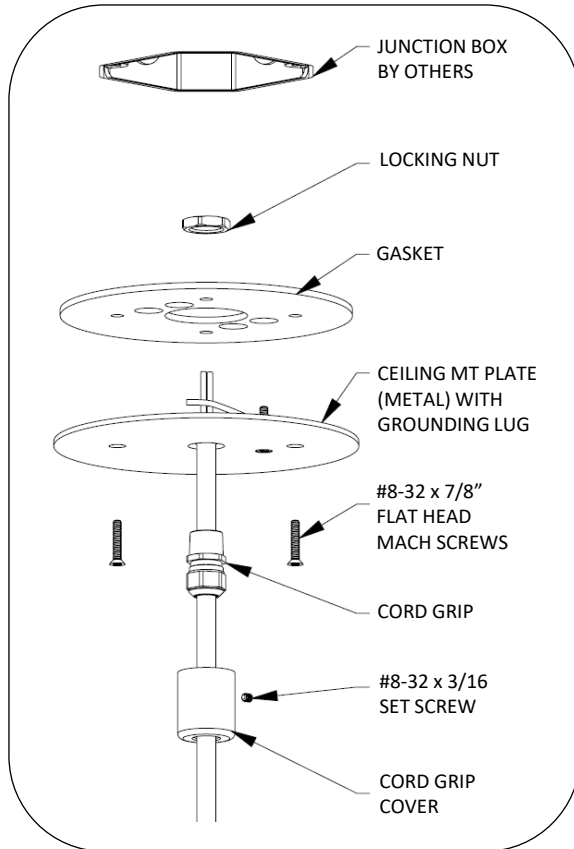
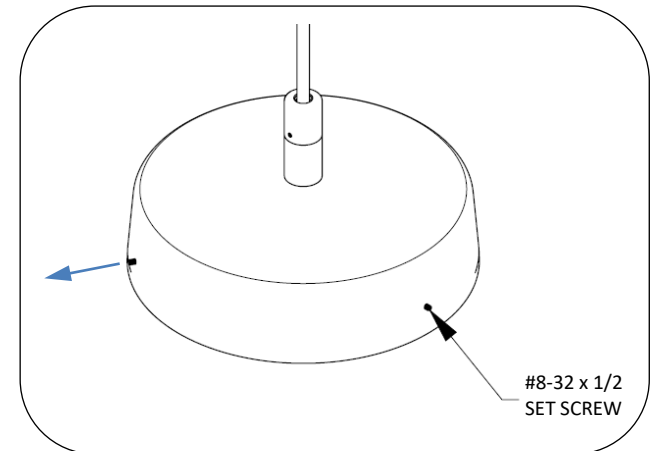

Fig. 1 – secure mt plate and gasket to junction box
Fig. 2 – back out set screws
2. Slide components over cord as shown in Fig. 1. Tighten cord grip in position on the cable, tighten locking nut.
3. Attach cord grip cover using (1) 8-32 x 3/16" set screw.
6. Note: luminaire ships assembled. To reduce weight of fixture during installation, the luminaire cartridge can be temporarily removed. To remove luminaire cartridge, see Fig. 2. Back out three set screws to loosen dome. Disconnect the wiring harness plug. Set cartridge aside. Do not fully back out set screws from dome.